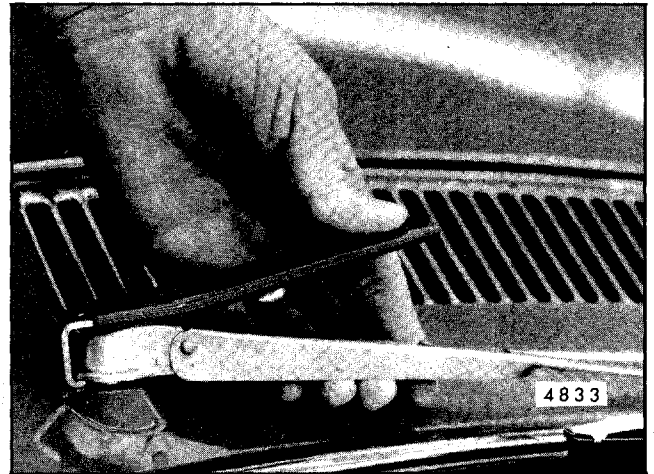

Fig. 2-7-Wiper Arm Removal Tool J-8966 (or Equivalent)
1. To remove the wiper arm and blade assemblies use tool J- 8966 or equivalent to minimize the possibility of windshield or paint finish damage during removal operation (Fig. 2-7).
The only adjustment of the wiper arm(s) is to remove the arm(s) from the serrated transmission shaft, rotate the arm(s) the required distance and direction and reinstall to transmission shaft. Wiper arm removal tool J-8966 or equivalent may be used for arm removal and installation while making adjustments (Fig. 2-7).